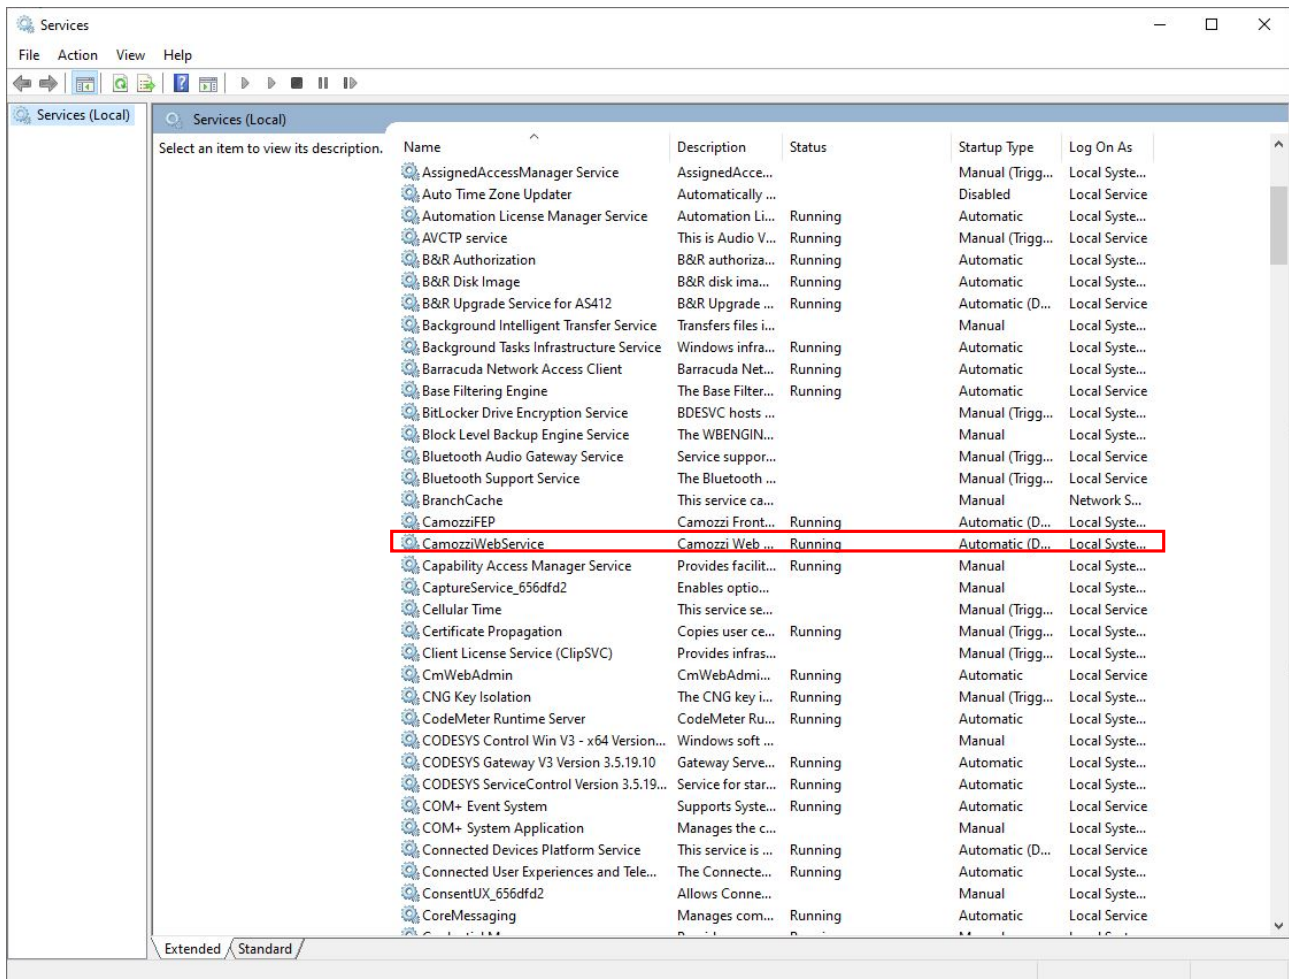

Figure 8.7: CamoZZiWebService Service
1 Web Service: If the connection is not present, access the services window and verify that the "CamoZZiWebService" status is running (Figure 8.7).
- **Unable to contact the login server:** Access the services window and verify that the "CamoZZiWeb-Service" status is running, as shown in Figure 8.7. If it's not running, you can manually force it by accessing the same window with administrator privileges.